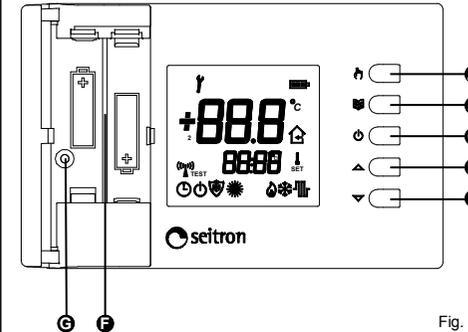

Fig. 1
2. Correctly insert the batteries (respecting polarity) in the battery compartment (Ⓛ of Fig. 1), do not use discharged batteries, use alkaline batteries.
1. Open the door accessing the battery compartment (Fig. 1).